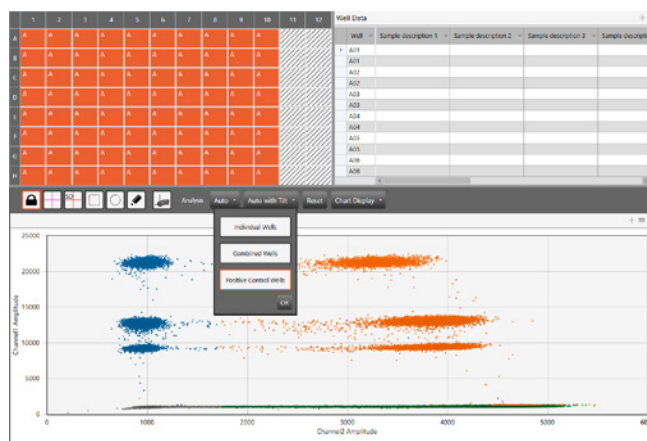

Fig. 4. 2D Amplitude screen when using positive control–based autothresholding with tilt.
3. Click the Auto with Tilt button, select Positive Control Wells at the bottom of the dropdown menu, and click OK. This will autothreshold all selected wells based on the designated positive control wells. See Figure 4 for details.